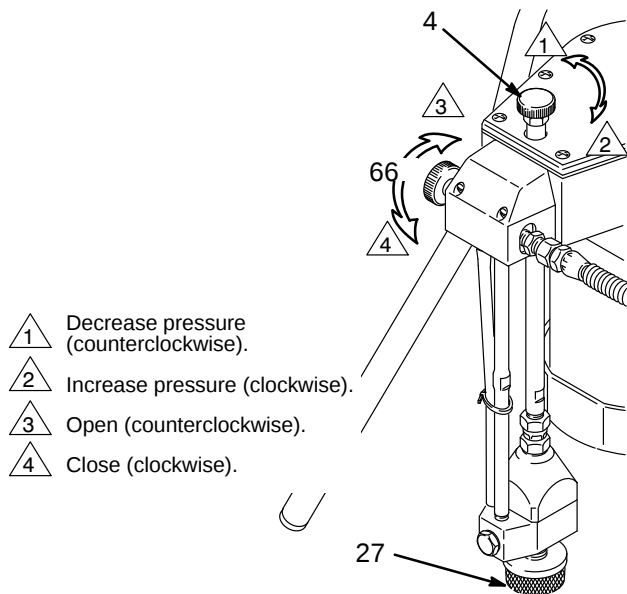
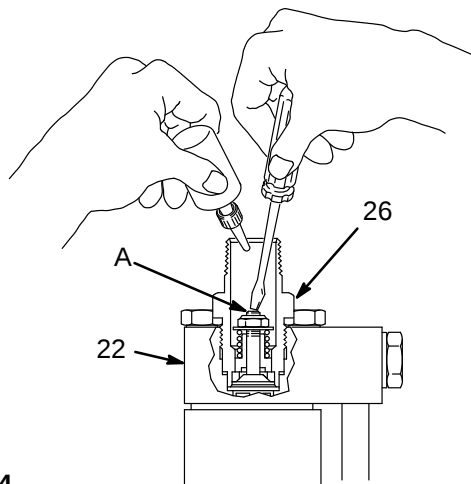

Fig. 3 0271
Fig. 4 0272
1. Open the bypass valve (66) ONE turn **counterclockwise**. Do not place the pump intake in the pail yet. See Fig. 3.
2. Turn the pressure control fully (4) **clockwise** to increase pressure. See Fig. 3.
3. Remove the inlet strainer (27) and place your hand over the inlet valve to be sure it is drawing a vacuum.
NOTE: If the inlet valve (26) is not drawing a vacuum, turn the sprayer OFF. Turn the sprayer over. Press down on the stem (A) inside the inlet valve lightly with a small screwdriver, and pour about a teaspoon of mineral spirits or solvent into the valve. See Fig. 4. Release the valve and turn the sprayer upright. With the pressure turned up, turn on the sprayer. This should free any sticking parts in the pump. Now check again for a vacuum. Shut off the sprayer and install the inlet strainer (27).
5. Turn the sprayer ON and allow the paint to circulate through the bypass valve (4) for one or two minutes.